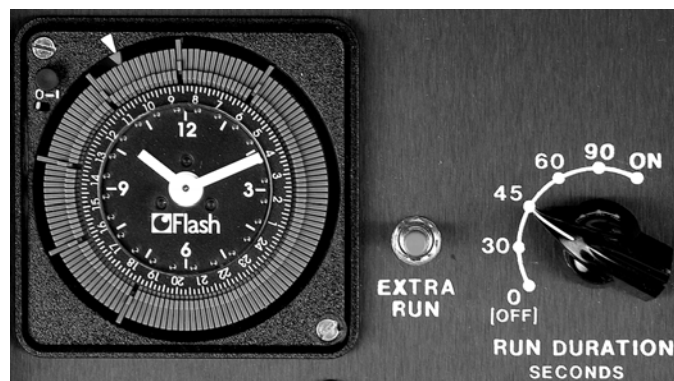

Figure 8 – Timer, Extra Run Button and Duration Selector Switch
27. Select the tripper for the time of day you want the system to operate by using a ball point pen or similar object to move the switch **OUT** into the **ON** position (figure 8). Red will show when switch is in **ON** position. Repeat the above for each time you want the system to operate. Spray times should be set from early morning to dusk. Your unit is shipped with timer set for six firing times.
28. Set the run duration selector switch to length of spray time desired. When first starting system, we recommend setting timer to operate 6 times for 45 seconds. When area is under satisfactory control (10 to 14 days), cut back the number of spray cycles and duration time to maintain control. **NOTE:** System will run continuously when run duration selector switch is in “ON” position. System will not operate when switch is in “OFF” position. Red “EXTRA RUN” button can be used at anytime to test system or for extra spraying (figure 8). **CLOSE TIMER LID WHEN FINISHED.**